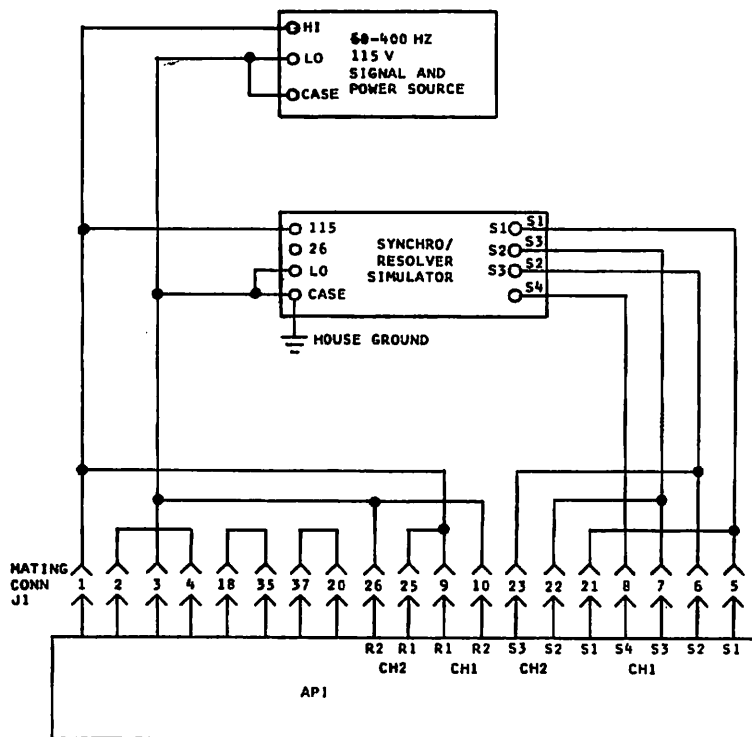

Figure 5-1. Performance Test Set-Up
- b. Verify that the mating connector has been wired for proper line-to-line and function to be tested. Refer to figure 5-1.
Set-up equipment as shown in figure 5-1 and perform the following.
- b. Set-up equipment as shown in figure 5-1. Tie the auxiliary equipment to house ground at only one point to avoid ground loops.